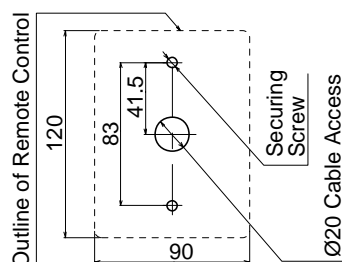

Fig. 1
2. Drill 3 holes as shown in Fig. 1, two for the securing screws and one to provide cable access.